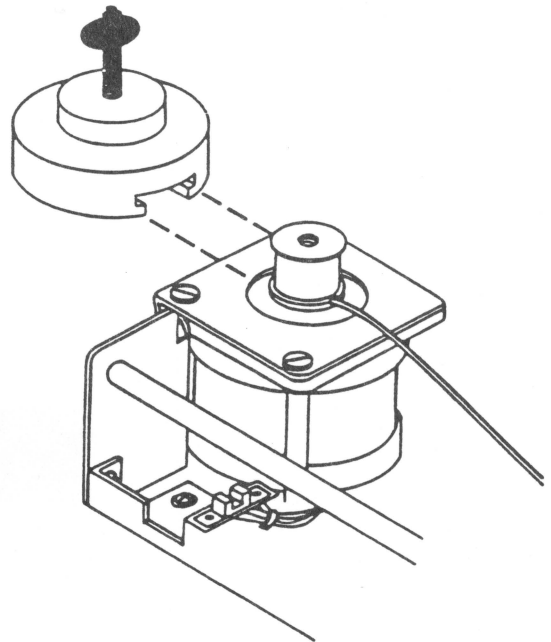

FIGURE 9
15. Use the pulley remover to take off the motor pulley. Slide the pulley remover onto the top of the pulley and turn the screw clockwise until the pulley is free. (See Figure 9.)